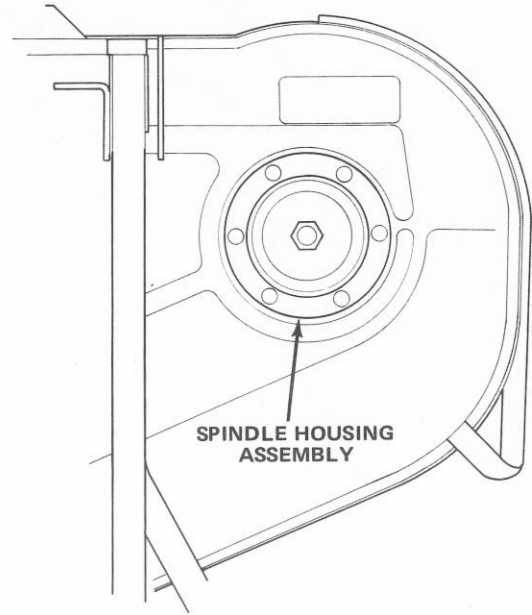

Figure 41
5. Remove six carriage bolts and flange nuts holding spindle housing assembly and support ring against cutting unit (Fig. 41). Slide spindle housing assembly out bottom of cutting unit.